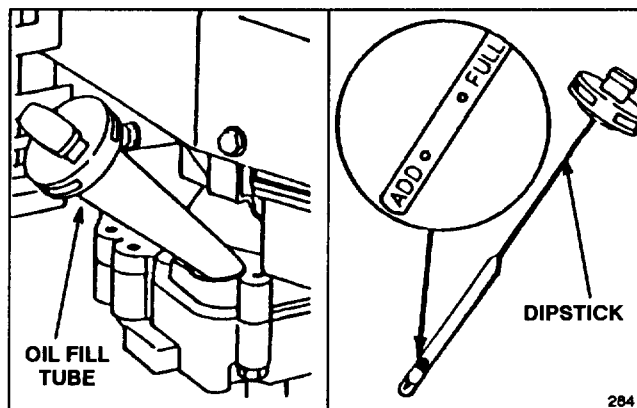

Figure 6
Fill crankcase with SAE 30 oil until oil level reaches FULL mark on dipstick as shown in Figure 6. The maximum crankcase capacity is 25 ounces (0.75 liters) of oil. Use any high quality detergent oil having the American Petroleum Institute (API) "service classification"—SE, SF or SG.
Before each use, ensure oil level is between ADD and FULL marks on dipstick (Fig. 6). Add oil if level is low.
3. Wipe dipstick and insert it into filler neck. Rotate cap clockwise 1/4 turn. Then remove dipstick and check level of oil (Fig. 6). If level is low, add only enough oil to raise level to FULL mark on dipstick. **DO NOT FILL ABOVE FULL MARK BECAUSE ENGINE COULD BE DAMAGED WHEN STARTED. POUR OIL SLOWLY.**
1. **CHECK OIL LEVEL**—Maintain oil level between ADD and FULL marks as shown on dipstick (Fig. 6).